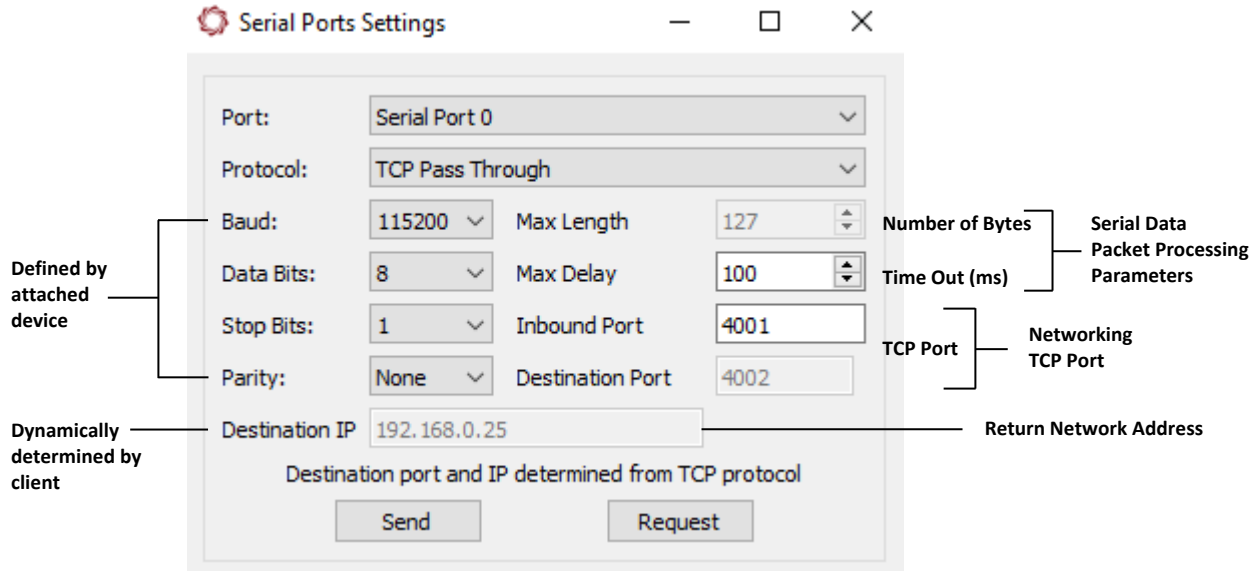

Figure 3: TCP Passthrough Settings Example
3. Enter the following settings in the *Serial Port Settings* dialog window (Figure 3):